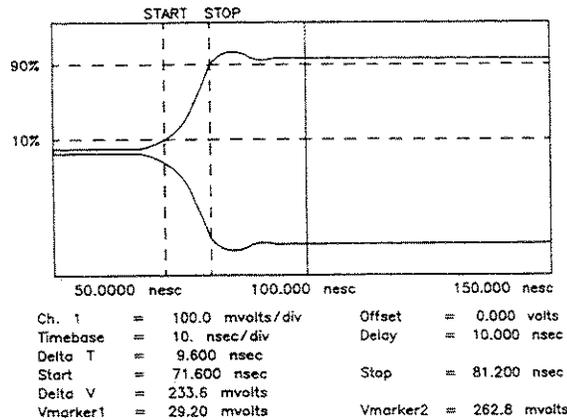

Figure 4-13. Oscilloscope Display
- Set the HP 8657B to the frequencies shown in the following Table. For each frequency measure the 10% to 90% Rise Time of the RF Pulse. The Delta V and Delta T Markers will require repositioning after each frequency change. To measure Fall Time will require a Shift Delay of +10 usec minimum on the oscilloscope to view the trailing edge of the pulse (including markers). Refer to Figure 4-13 for an example of the oscilloscope measurement display. The Rise and Fall Time should be within the limits shown in the Table.